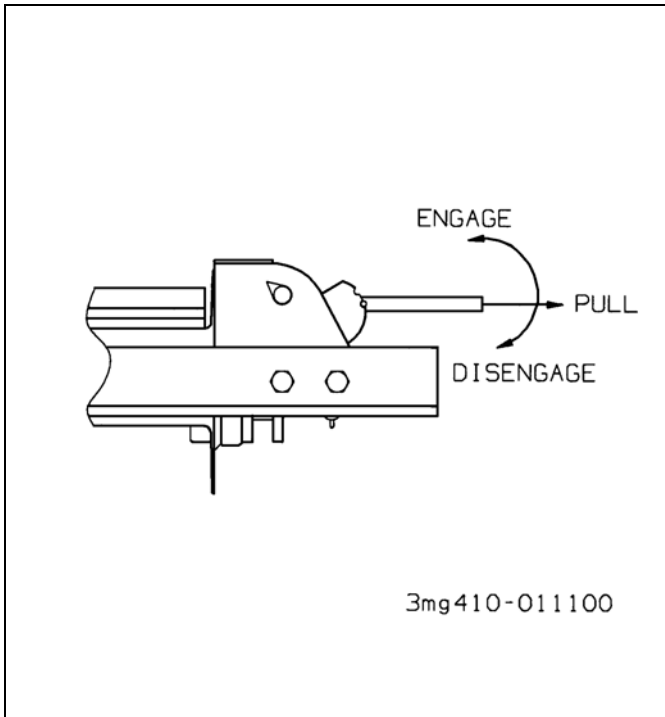

Figure 3-2: Winch Clutch Handle
1. The **12,000# WINCH CLUTCH HANDLE** is on the curbside of the winch assembly (See Figure 3-2.) The 12,000 pound winch clutch handle has two positions that engage or disengage the winch spool: